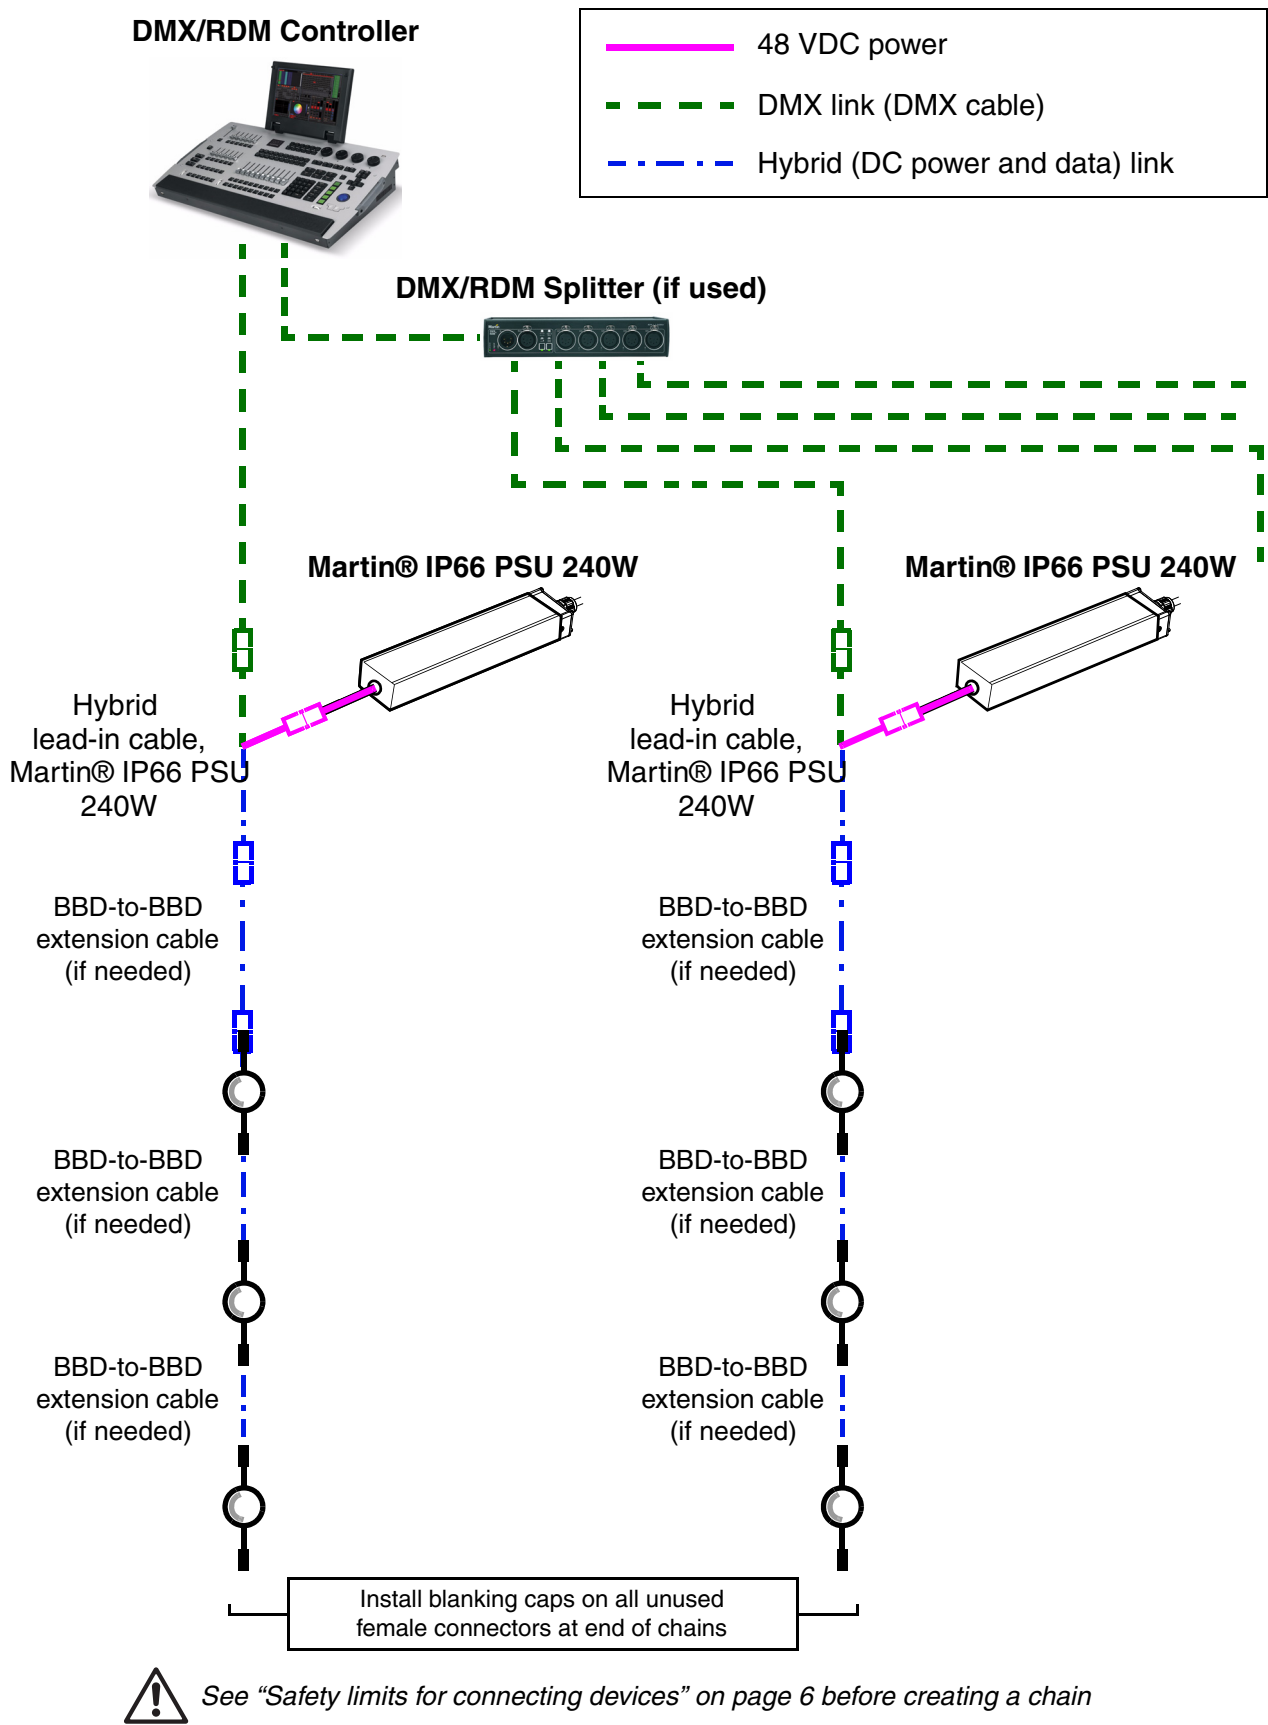

Figure 8: DMX-controlled system using the Martin® IP66 PSU 240W
1. See Figure 8 on page 21 for an overview of this type of installation